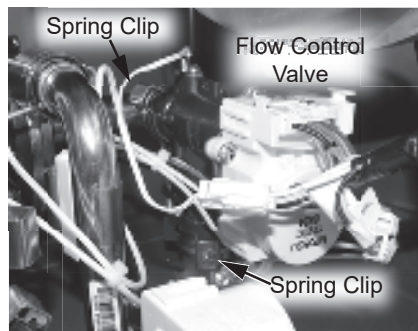

Figure 180 - Flow control valve location
19 Locate the flow control valve at the bottom right side of the water heater. See Figure 180.
20 Remove the two (2) spring clips (size 25) securing the flow control valve to the piping system. Place spring clips aside in a safe place for reinstallation. Remove the flow control valve from pipe connections and set aside in the water heater cabinet. See Figure 180.